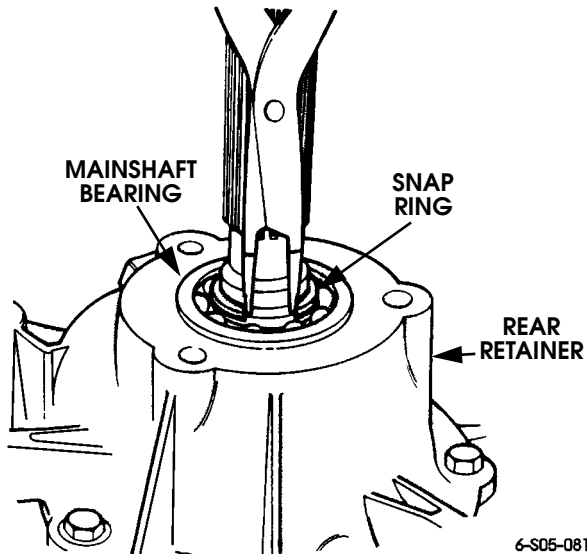

Figure 5-168: Rear Retainer and Mainshaft Bearing Snap Ring Installation
38. Align and install rear retainer (Figure 5-168). Install and tighten retainer bolts to 22-25 lb-ft (30-34 N•m).
39. Install mainshaft bearing snap ring (Figure 5-168).